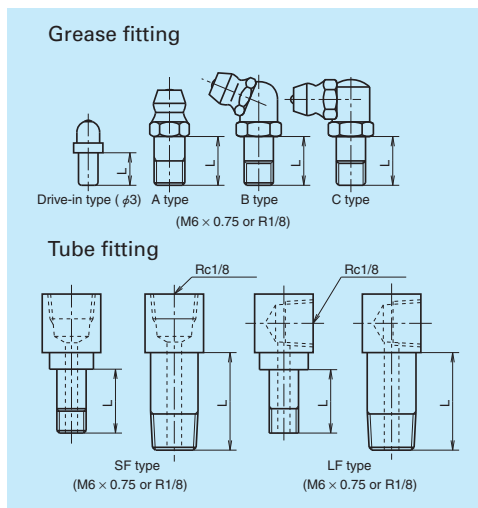

Fig. 13 Grease fitting and tube fitting
**Fig. 13** and **Table 8** show grease fittings and tube fittings.